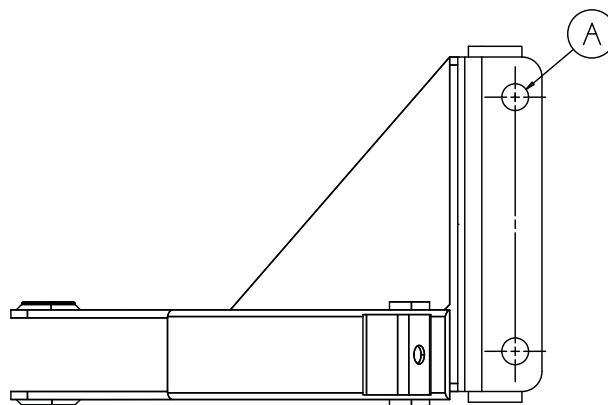

Fig. 3
2. Manoeuvre the machine and blade as necessary so that the lift arms can be attached to the top mounting holes on either side using the lynch pins and snap pins supplied in the kit (A on Fig. 3).